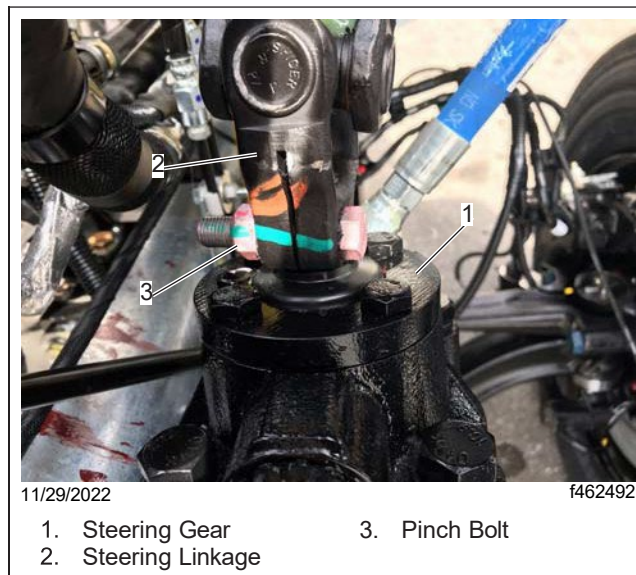

Fig. 7, Pinch Bolt Removal
7. Use a 5/8-inch wrench and a 11/16-inch socket to remove the pinch bolt that attach the steering linkage to the top of the steering gear. Discard the fasteners. See Fig. 7.